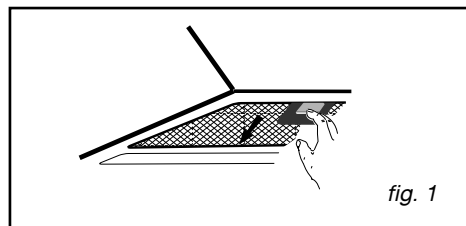

fig. 1
- Push the integrated handle on the filter cartridge (fig.1).
- Remove the lighting port (fig. 1).